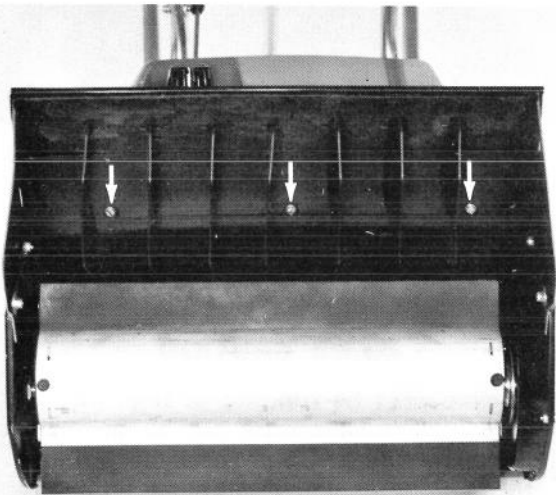

Figure 20
1. Remove three screws holding front of shroud to impeller housing (Fig. 20).
9. Secure front of shroud to impeller housing with three  $\frac{3}{4}$  inch long (19 mm) screws (Fig. 20).